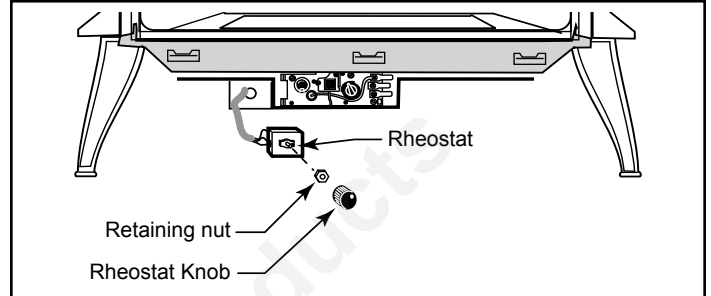

Figure 52 - Attach rheostat to control panel.
4. Pass the rheostat cord under the firebox. If the control valve cover panel has not yet been installed, set it in rough position in front of the firebox. Leave the control panel off until you have attached the gas line and connected the switch wires. (Figure 52) Align the locating pin on the rheostat stem with the smaller hole in the Control Panel. Fasten the rheostat stem to the Control Panel with the retaining nut.